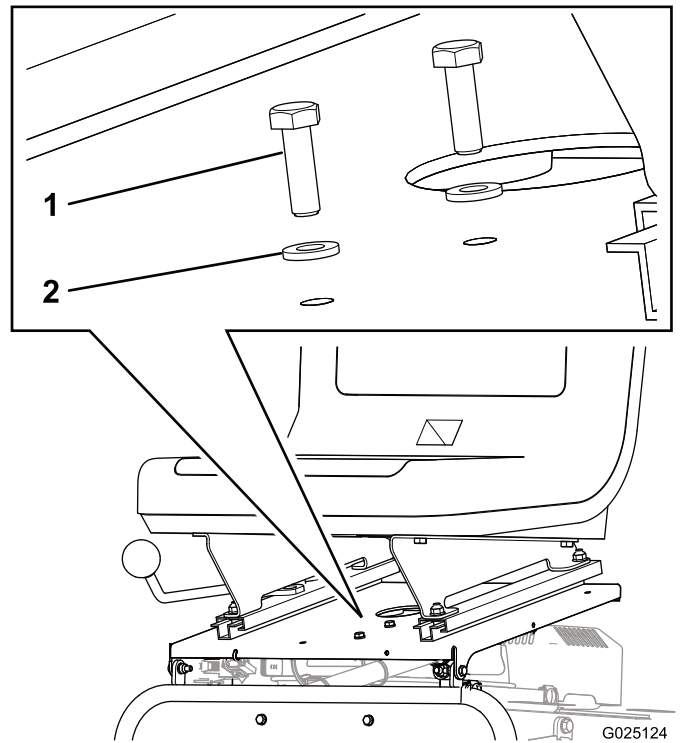

Figure 6
2. Insert 2 screws (M6 x 20 mm) with 2 washers (M6) down through the holes in the top of the seat pan (Figure 6).